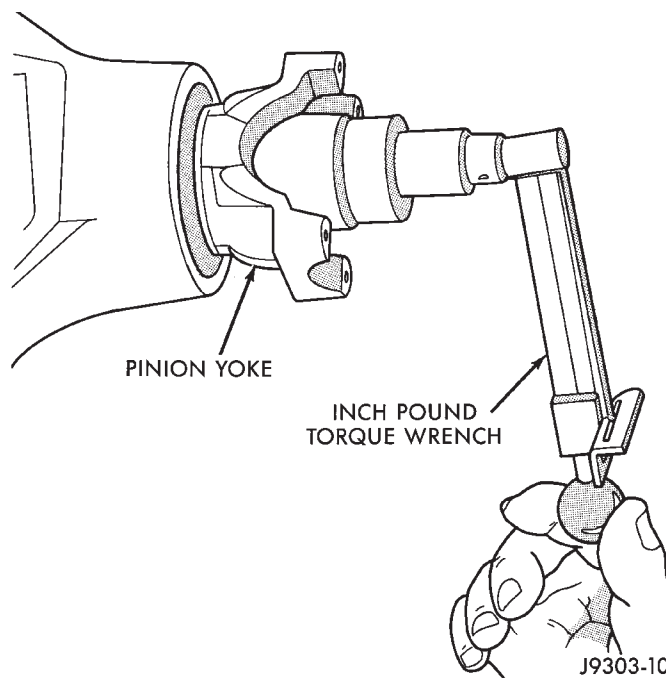

Fig. 37 Check Pinion Gear Rotating Torque
(14) Using Yoke Holder 6719, crush collapsible spacer until bearing end play is taken up.
(15) Slowly tighten the nut in 6.8 N·m (5 ft. lbs.) increments until the desired rotating torque is achieved. Measure the rotating torque frequently to avoid over crushing the collapsible spacer (Fig. 37).
(16) Check bearing rotating torque with an inch pound torque wrench (Fig. 37). The torque necessary to rotate the pinion gear should be: